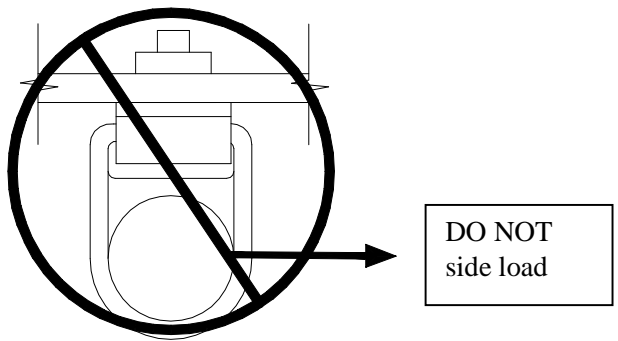

Figure 4
**WARNING:** **DO NOT** mount in an orientation in which the D-Ring can be side-loaded (see Figure 4).